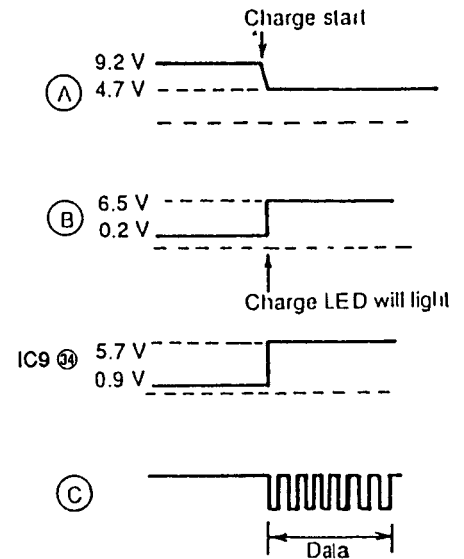

Fig. 33
When the battery in the portable handset is charged, the voltage at the (+) charging terminal changes from 9 V → 5 V (Fig. 33 (A)), and Q50 goes ON (Fig. 33 (B)). As a result, 6 V is supplied to the emitter of Q50, the CHARGE LED lights, and the CHARGE mode is input to pin 34 of IC9.